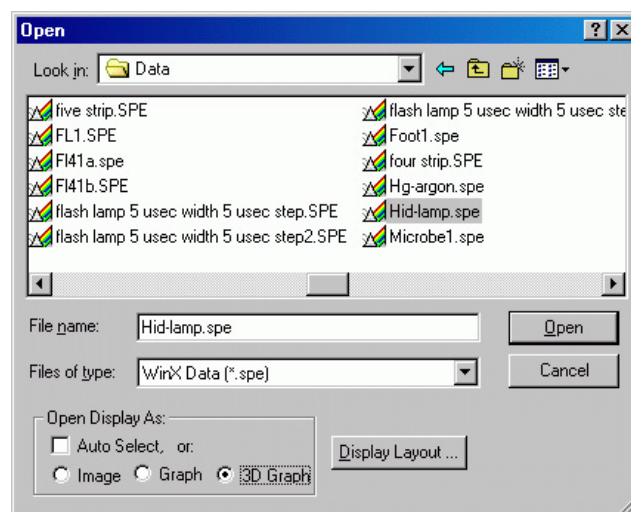

Figure 76. Open dialog
- From the File menu select **Open**. The Open dialog (Figure 76) will appear, allowing you to select the image to be opened. The Look-In box provides a browser function so that the directory where the images are located can be easily accessed. By default the data directory is a subdirectory of the WinSpec program directory. Files of the specified type (the WinSpec/32 data type is *.spe) in the current directory and any subdirectories are listed in the box below the directory name.